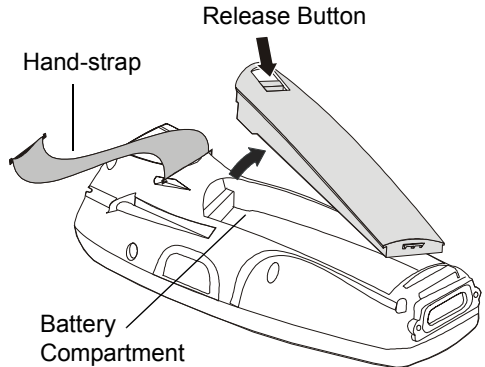

Figure 3. Battery Installation and Removal
1. Disconnect the IMD hand-strap (see Figure 3).
Press the release button on the battery (see Figure 3) and pull away the battery from the IMD.